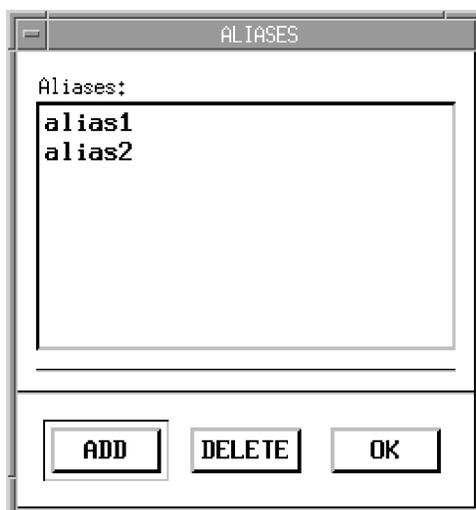

Figure 24. ALIASES Window
STEP 5: **Add aliases for a machine, if desired.** Click on the ALIASES button in the ADD MACHINE window to open the ALIASES window (Figure 24).